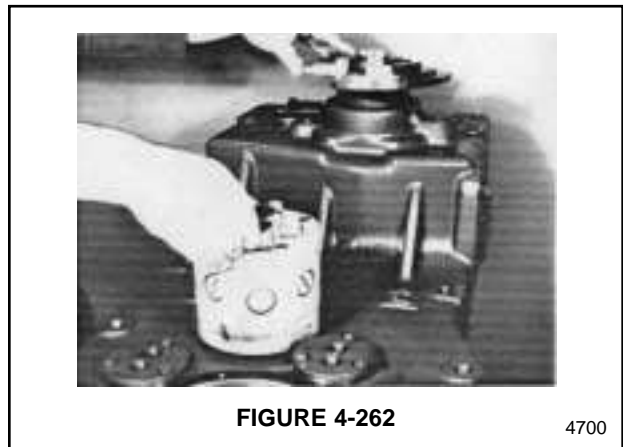

FIGURE 4-262
3. Insert the steering pump into the bore in the transmission. See Figure 4-262. Rotating the transmission output shaft will help the pump